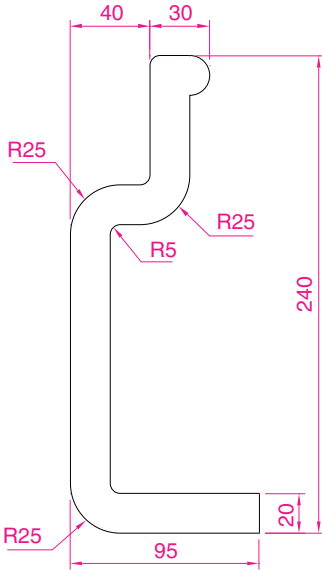

Fig. 13.22 Third example – Revolve. The outline to be revolved
1. Construct the pline in Fig. 13.22. The drawing must be either a closed pline or a region.